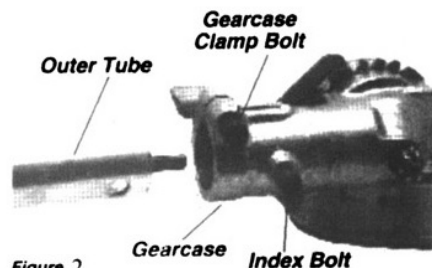

Figure 2
- **Lubricate the gearcase.** To perform this operation, first remove the gearcase from the outer tube (Figure 2):